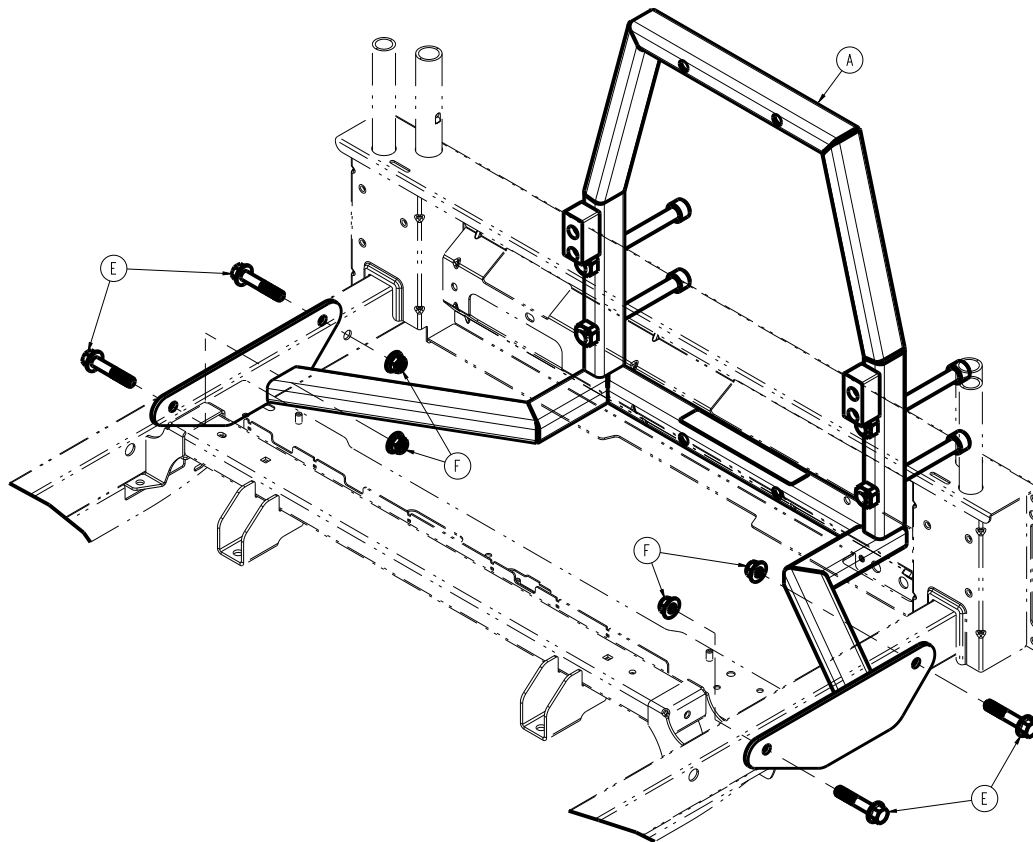

Figure 57 – Attaching the patient helper bracket
5. Using a small slotted screwdriver, remove the four litter plugs toward the head end of the product. See the hex screws (E) for the litter plug locations. Discard the litter plugs.
6. With another person, hold the patient helper weldment (A) upright at the head end of the product (Figure 57).
7. Insert the four hex screws (E) through the patient helper weldment (A) and litter frame and thread on the four hex nuts (F) (Figure 57).